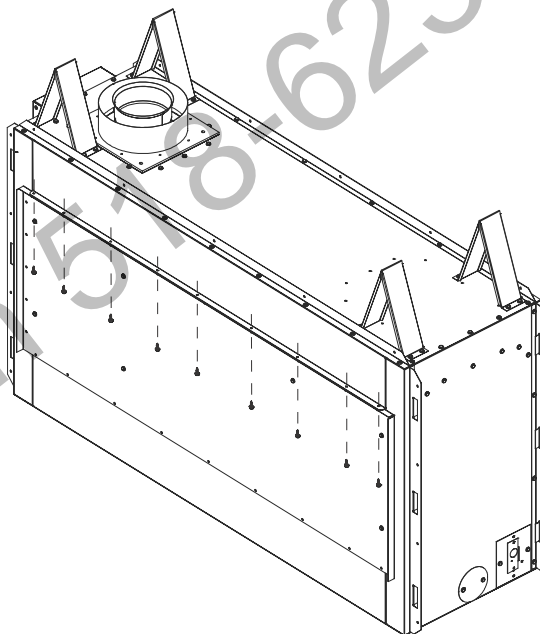

Figure 29 - Removing Rear Panel for See-Thru Applications
1. In the rear of the fireplace, locate screws at top of rear panel and remove as shown in Figure 29. Discard screws and rear panel.